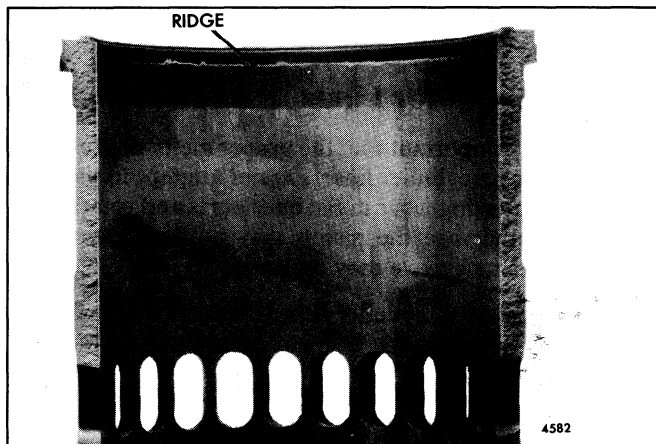

Fig. 3 - Cylinder Liner Ridge Due to Wear
2. To remove the ridge formed at the top by the piston ring travel (Fig. 3). Otherwise, interference with the travel of the new compression rings may result in ring breakage.